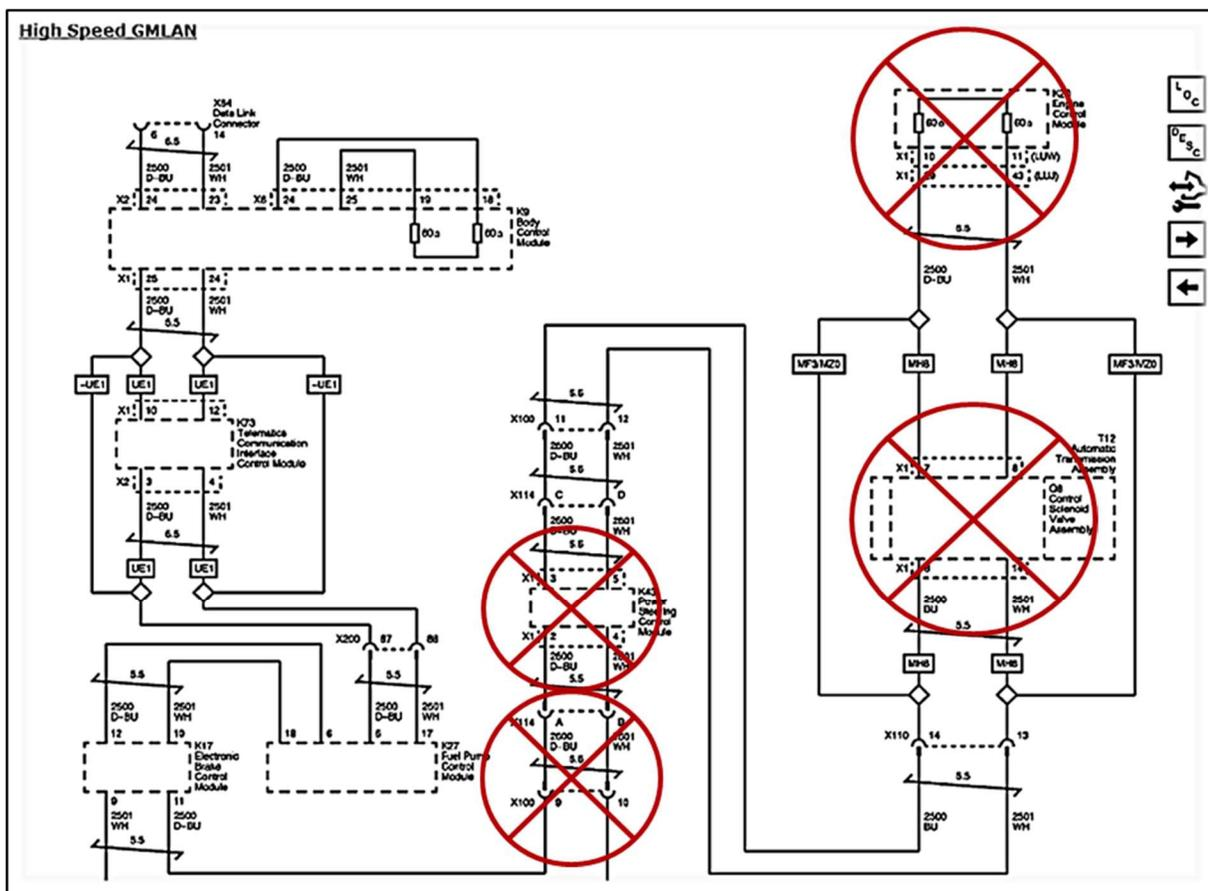

Figure 3-15, Network Schematic – Localizing Faults
Using the vehicle schematic from GM Service Information (SI), place a check mark on the modules corresponding to every module noted on the detected state test (Figure 3-15). Multiple data circuits may be tested at the same time. Refer to the Data Circuit column to identify to which data circuits the control modules belong. Take note of any modules that do not have a check mark. These are the modules that did not respond to recent inquiries during the detected state procedure. Start by searching in the area on the vehicle after the last responding module on the tool and the first module not responding on the schematic. In many cases, the problem can be fixed by looking at the connectors and harness.